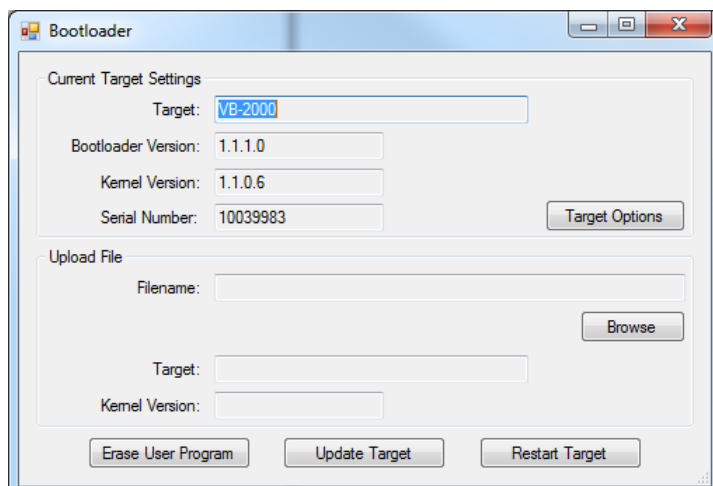

Figure 2-14 - Bootloader
7. Using the menu, click **PROJECT** then **BOOTLOADER**. You may see a window momentarily while EZ LADDER connects to the VB-2XXX controller bootloader. The Bootloader window will open. See Figure 2-14.